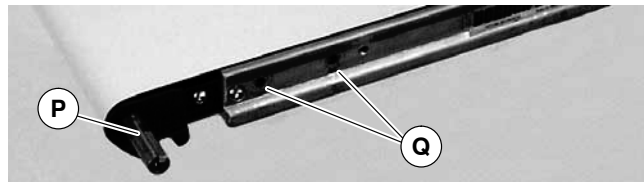

Figure 3
2. Locate drive output shaft (P of Figure 3) and remove two screws (Q).